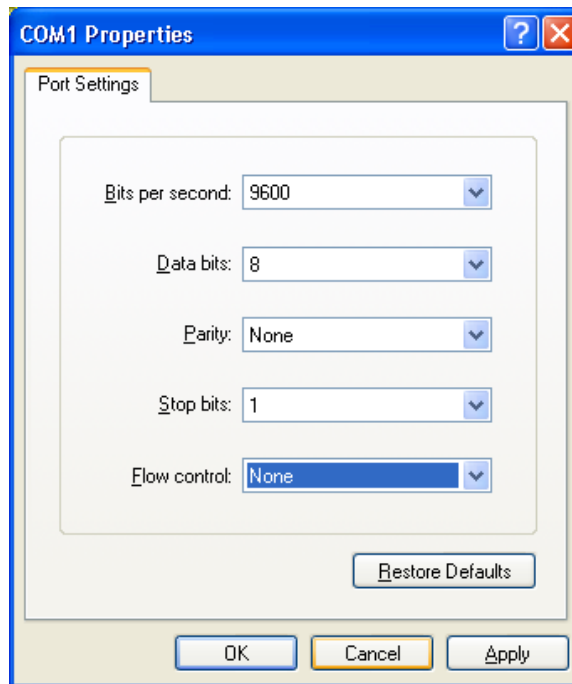

Figure 26 Setting Port Parameters
Step 5: Set port parameters (Bits per second: 9600, Data bits: 8, Parity: None, Stop bits: 1, and Flow control: None), as shown in Figure 26.